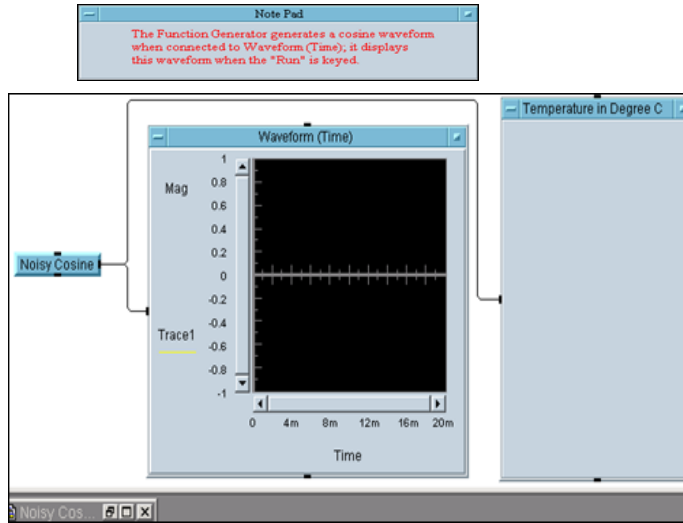

Figure 1-17 The iconview of the Noisy Cos function
- 7 Go to the upper-right corner of the UserObject and click on the horizontal bar; it will send the UserObject, in the form of an icon, to the bottom left of the Main work area. Its Icon View will also appear in the Main work area. See Figure 1-17.